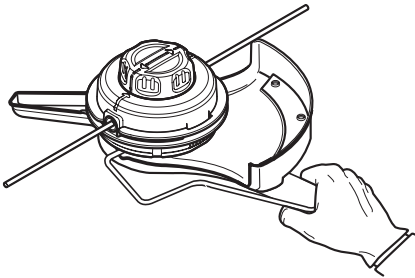

Figure 2
4. Hold the locking rod in place by grasping the other end against the shaft housing (Fig. 2).